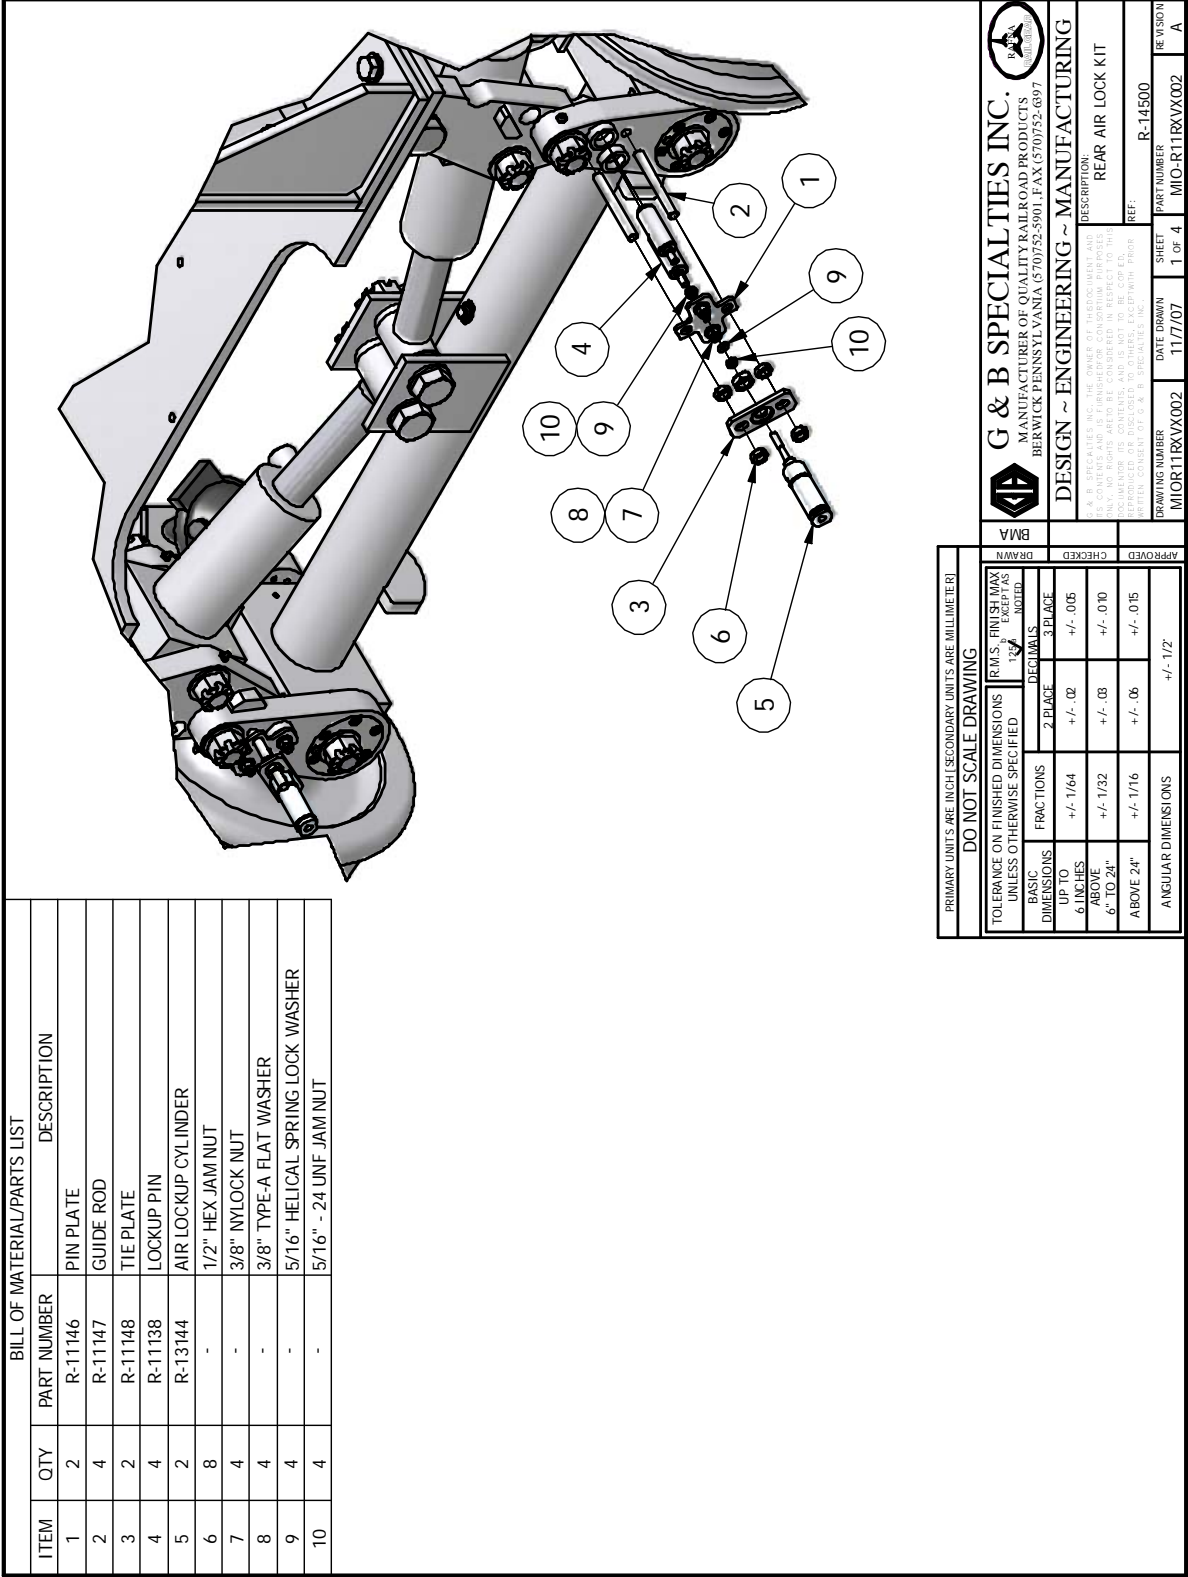

Fig 1
1. Fasten the two lockup pins (Item 4, Fig. 1) to the pin plate (Item 1, Fig. 1) using two 3/8" flat washers and two 3/8" nylock nuts (Items 7 & 8, Fig. 1) as shown in figure 1.
2. Thread the guide rods (Item 2, Fig. 1) into the drilled holes, making sure the 1/2" threaded end is in the holes, and weld 1/4" fillet weld all around as shown in figure 1.
3. Fasten the tie plate (Item 3, Fig. 1) to the air cylinder (Item 5, Fig. 1) as shown in figure 1.
4. Fully extend the air cylinder and fasten the rod end of the cylinder to the pin plate using two 5/16" lock washers and two 5/16" jam nuts (Items 9 & 10, Fig. 1) as shown in figure 1.
5. Place the pin plate onto the guide rods and thread two 1/2" hex jam nuts (Item 6, Fig. 1) onto the guide rods as shown in figure 1.